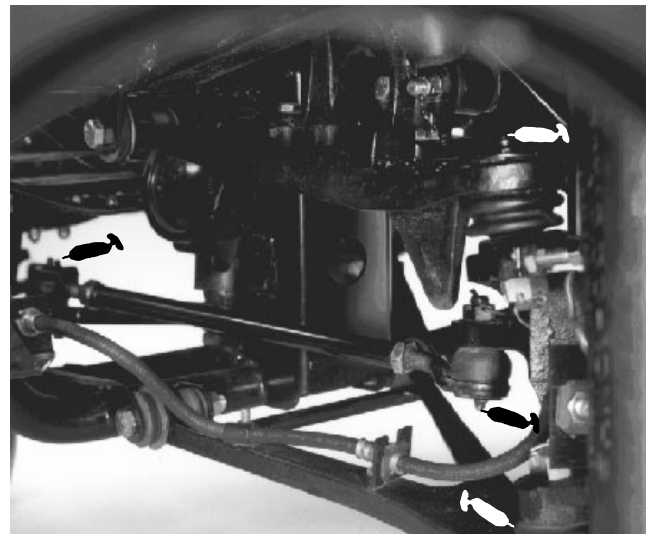

Figure 21
(Fig. 21 – 24)
The grease fitting locations and quantities are: Tie rod ends (4) (Fig. 21), Front ball joints (4) (Fig. 21), Rear drive shafts (18) (Fig. 23), Steering shaft (1) (Fig. 24), Front pivot bushings (2) (Fig. 22) and Pedal pivots (4) (Fig. 25).